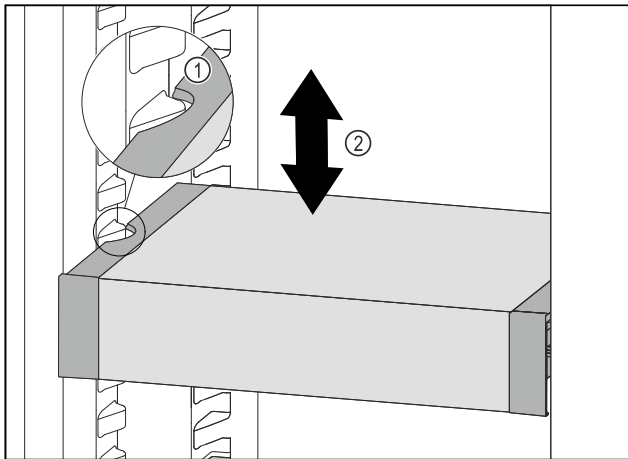

Fig. 35
- ▶ Pull VarioSafe forwards until the recesses in the side of the VarioSafe are at the level of the support rib in the refrigerator compartment. Fig. 35 (1)
- ▶ Move VarioSafe up or down in the refrigerator compartment until the desired height is reached. Fig. 35 (2)